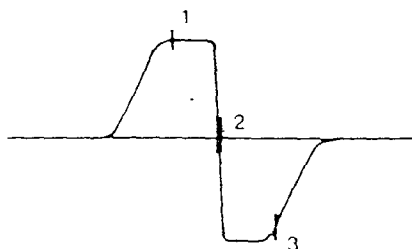

Fig. 10 AFC Response Curve
- (1). Carry out AFC adjustment after PIF adjustment is made.
- (2). Reconnect the vertical input of the sync oscilloscope with 1M ohm resistor in series to TP13 (pin 13 of IC101).
- (3). Set AFC Switch to OFF position.
- (4). Adjust L105 for the AFC waveform as shown in Fig. 10.